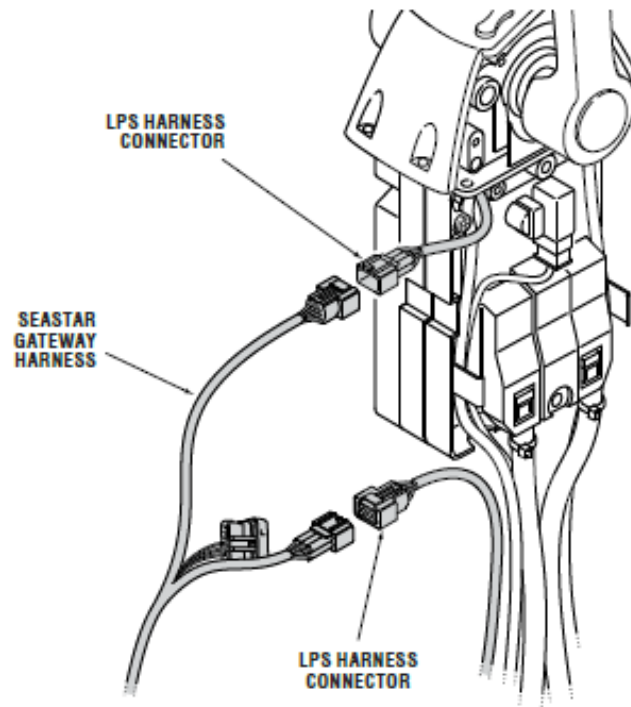

Figure 7-3. Gateway harness connection.
7. Connect the SeaStar gateway harness as shown in figure 7-3. Port harness is identified 'P\_LPS' and the starboard harness is identified 'S\_LPS.'